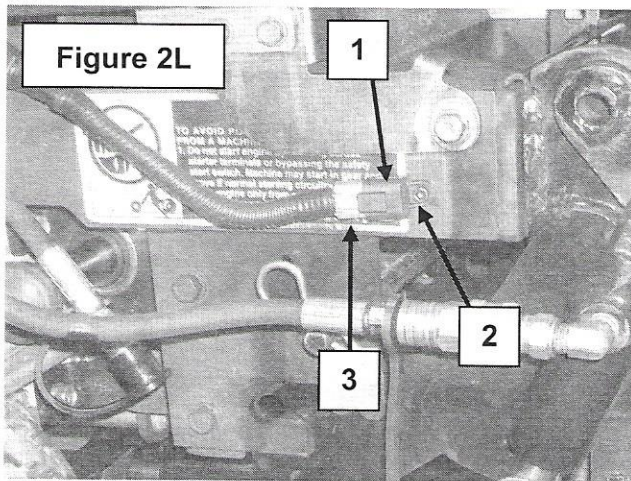

Figure 2L
14. **Figure 2L:** Attach the connector protector (item 1) to the tractor frame as shown on figure with #10-24NC x 1" lg allen socket head capscrew (item 2), flat washer and nylon insert locknut then insert the harness's connector (item 3) in the connector protector (item 1).
2. **Figures 8:** Disconnect the harnesses and put the connector which serves as a dust plug (**figure 4B**, item 1) into the other connector (**figure 4B**, item 2). Then, insert this harness (item 3) in the motor support slot as shown and the tractor harness (**figure 2L**, item 3) in the connector protector (**figure 2L**, item 1).